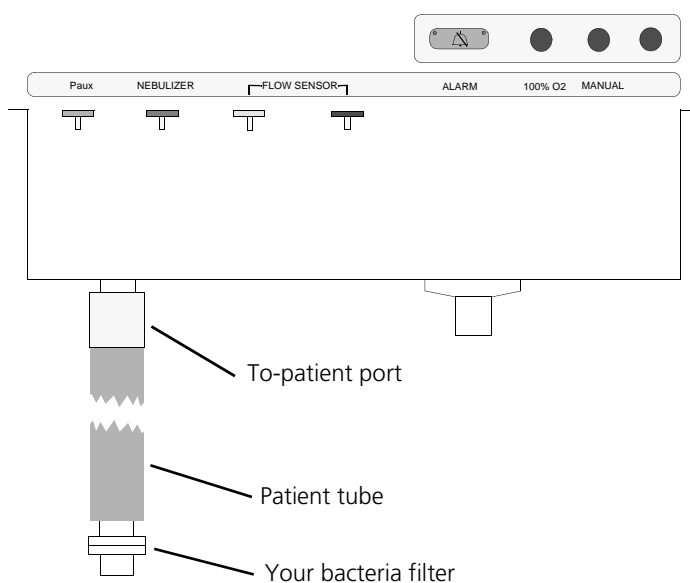

Figure 10-34. Tubing setup for the ambient valve check
1. Connect the patient tubing and your own personal bacteria filter as shown in Figure 10-34 below.